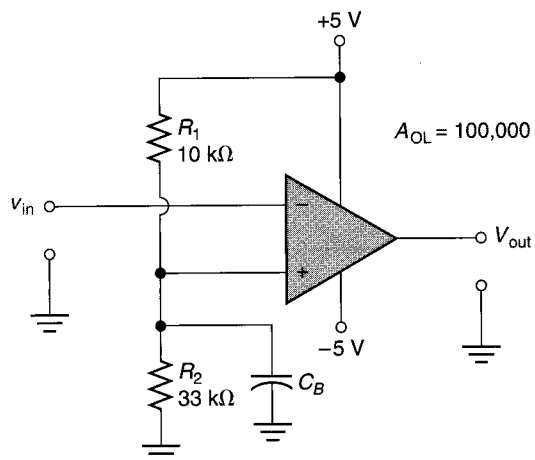

FIGURE 16.35
2. Determine the value of  $V_{\text{ref}}$  for the comparator in Figure 16.35.